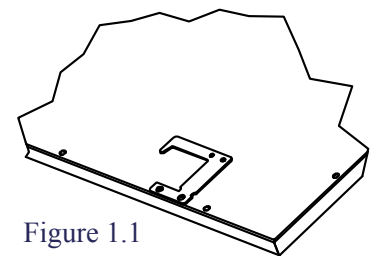

Figure 1.1
2. Unscrew (6) T-grid hooks, **Figure 1.1**, and discard each hook including the (2) screws from each.